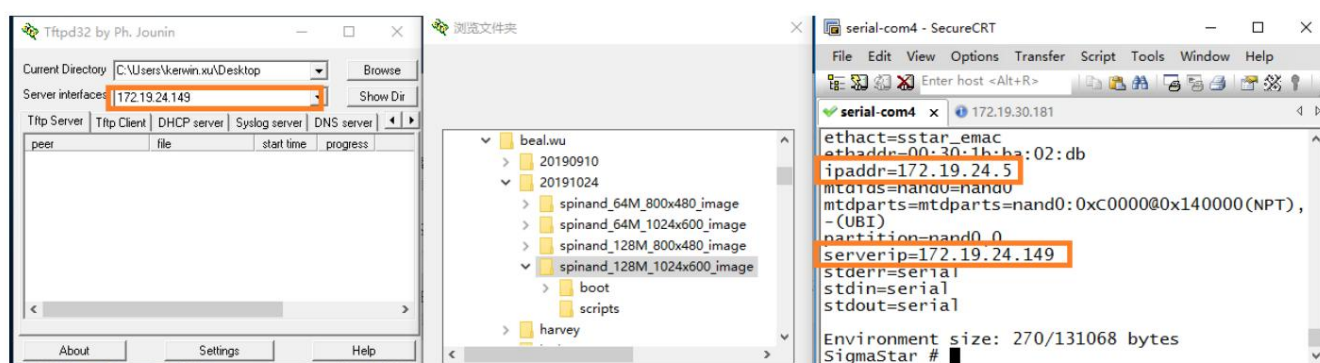

Figure 22
Step 2: Use TFTP software to specify the burning path of Image, and ensure that the server IP address is configured correctly, as shown in Figure 22 below, the board Serverip is 172.19.24.149.